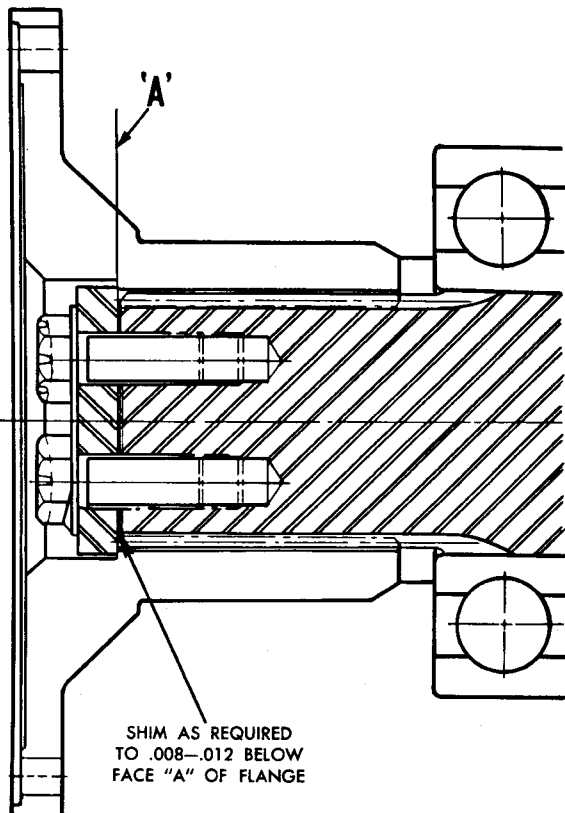

Fig. 4-4. Measurement to determine thickness of drive flange shims
(4) Remove the flange bolts and washer.
(5) Measure from the flange washer seat in the output flange (face A) to the end of the output shaft (fig. 4-4).
(6) Subtract 0.010 inch from the dimension obtained in (3), above. The remainder is the thickness of the shim pack required.
(7) Select shims which will equal this thickness (within  $\pm 0.002$  inch).